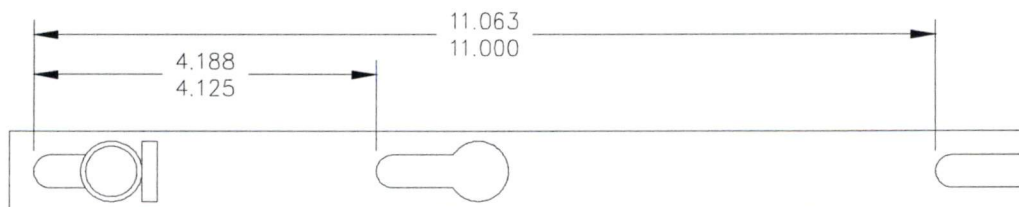

Figure 2 – Critical Keyway Dimensions
- c) Critical keyway dimensions on the down tubes are shown in Figure 2. Attempt to insert 27/64 drill shank into bottom end of slots. If drill can be inserted, slot is worn beyond limit.